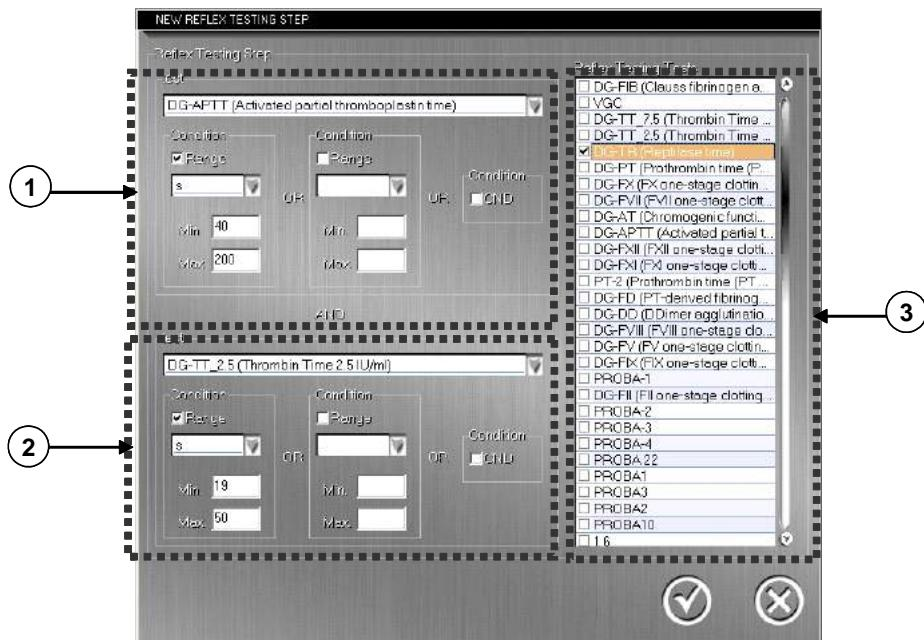

Figure 9.34. New Reflex Testing Step Window
- Then, press the **New Step** button. The program displays the **New Reflex Testing Step** window (Figure 9.34) to enter the Reflex Testing step and its conditions.
It is possible to add a second Reflex Testing step to an existing one by selecting the desired Reflex Testing, pressing the  button and selecting the **New Step** option. The program again displays the window indicated in Figure 9.34 where, on the drop-down menus for tests, the tests